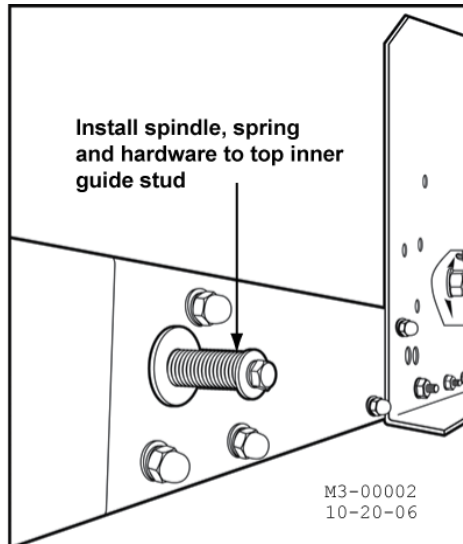

Figure 2-8: Securing the Side-guides
5. Secure the top stud with the spring assemblies, bolts, nuts, and washers found in the hardware kit. See Figure 2-8.